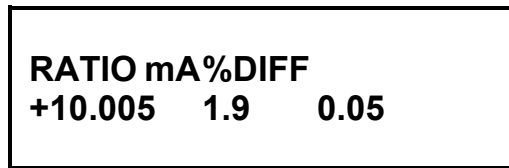

Figure 24.0 Test Results Status Display
- a. Description:** Displays the transformer winding polarity, turns-ratio, excitation current (in milliamps), and turns-ratio percentage error after completion of the transformer test. A typical turns-ratio test result screen is shown in Figure 24.0. The display result is explained below:
- b. Origin:** The LCD displays “Test Results Status Display” (Figure 24.0) after the “Test In Progress Status Display” (Figure 23.0).
- b. **Origin:** The “Print Test Results Menu” is displayed after operator presses any key or pushes down on the Control Knob from the “Test Result Status Display” (Figure 24.0).